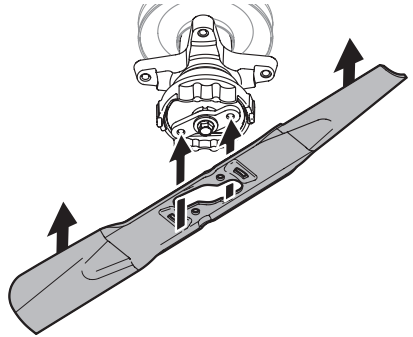

Figure 48
3. Position the blade under the spindle assembly and carefully align the large opening in the center of the blade over the tractor blade retainer (Figure 48).